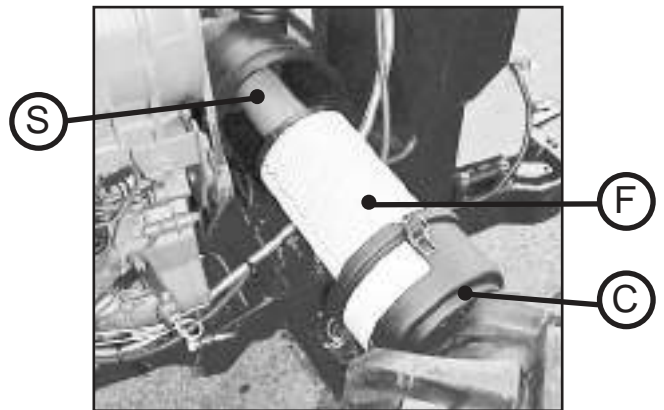

Fig.39
Filter cartridge (F, Fig. 39).
When the lamp lights up on the instrument panel, clean the main filter (F). Remove the cover © and remove the external element (F, Fig. 39). Clean carefully with air under pressure.
Safety filter cartridge S (Fig. 39)
Filter maintenance (Fig. 39 – 40)
2. Remove cartridges (F and S, Fig. 39)